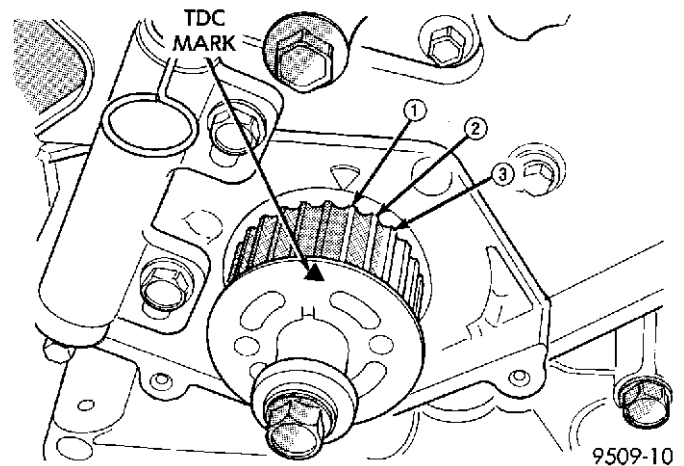

Fig. 46 Crankshaft Sprocket Timing
(4) Set crankshaft sprocket to TDC by aligning the sprocket with the arrow on the oil pump housing, then back off to 3 notches before TDC (Fig. 46).